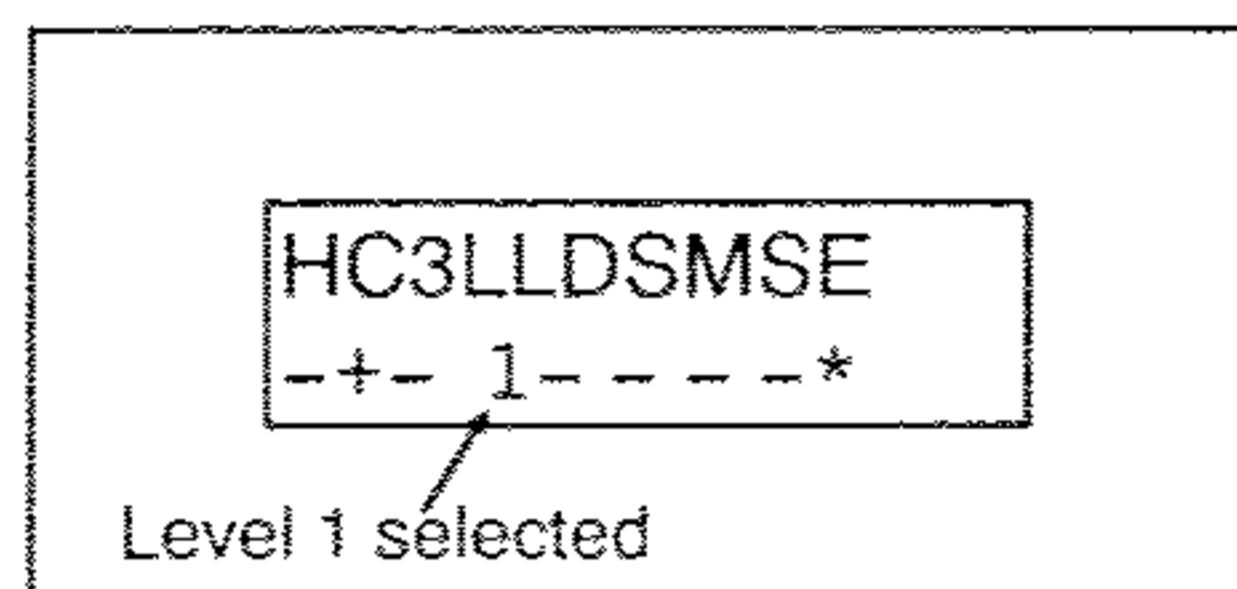

FIGURE 1 (MSSM0238AE)
2. Close the door. Run Formula 99. (The cylinder will be stationary and without water). Enter Manual Mode B which stops the timer. (See "MANUAL FORMULA MODIFICATIONS" elsewhere herein.) Now press **COLD** to manually add cold water and press **CANCEL** to stop the incoming water as it approaches the desired level. Now set the appropriate (L1, L2 or L3) level control so the proper level number (1, 2, or 3) for the just-established level just appears on the display (see FIGURE 1).